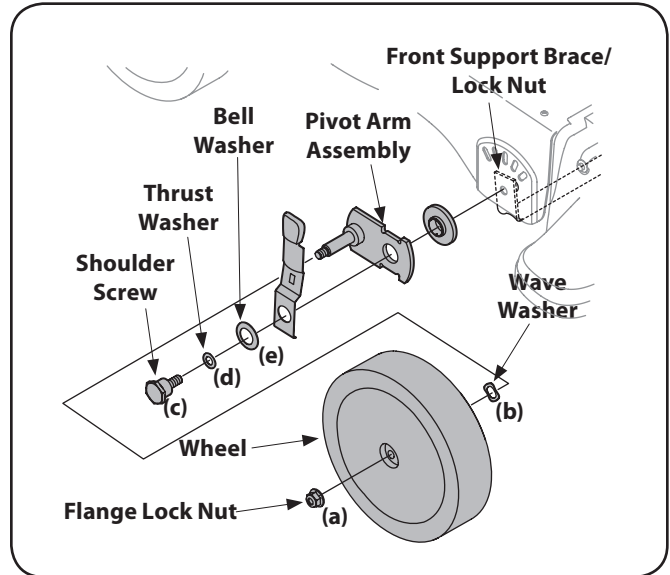

Figure 7-2
4. Remove the flange lock nuts (a), front wheels, and wave washers (b) that attach to the pivot arm assemblies. See Figure 7-2.